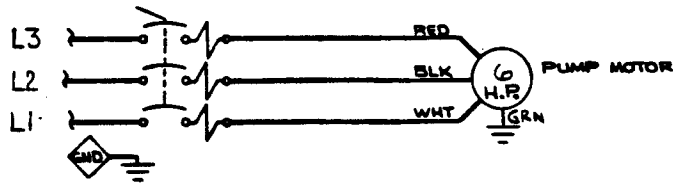
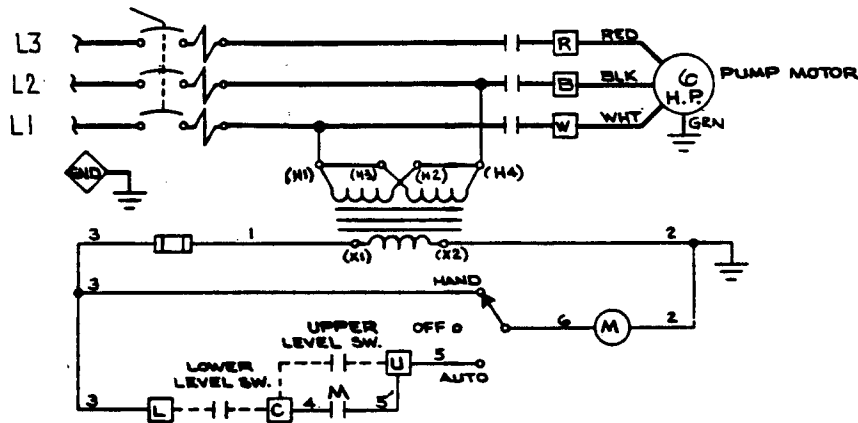
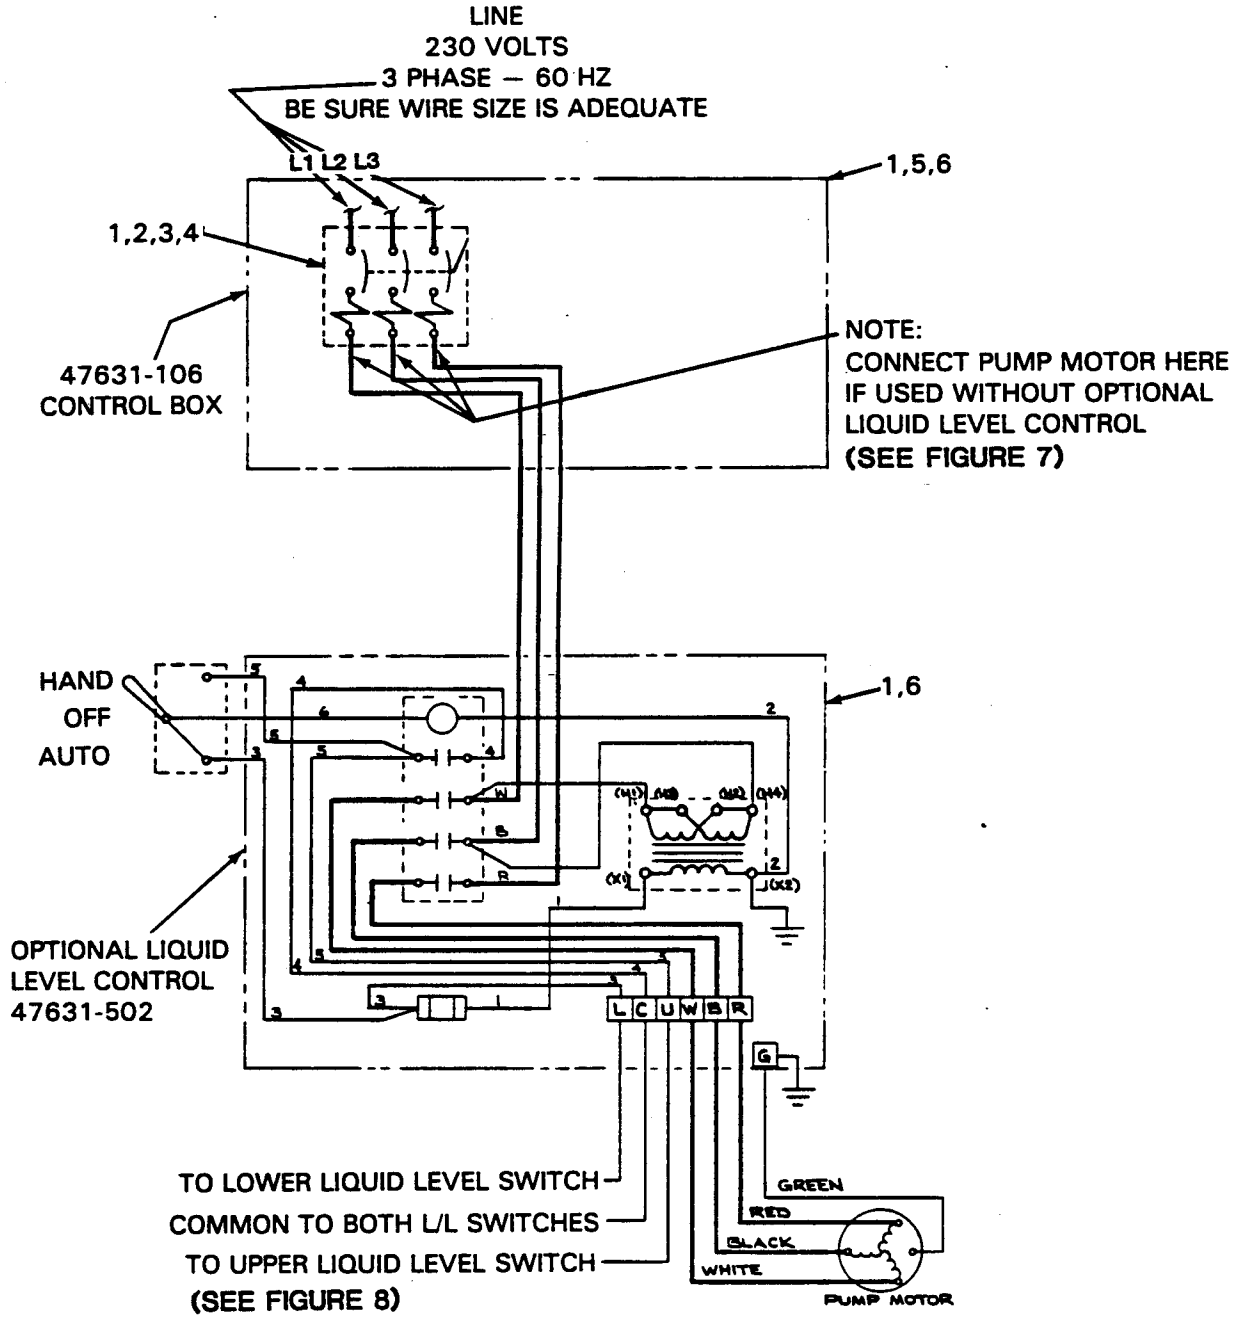

Figure 7. Elementary Wiring Diagram (Without Liquid Level Controls)
Figure 8. Elementary Wiring Diagram (With Liquid Level Controls)
Figure 9. 47631-106 Control Box Assembly - Pictorial Wiring Diagram
See Figure 9 on page B-16 for internal parts.
- a. Measure the incoming voltage across lines (1 & 2, 2 & 3, and 1 & 3.) while the pump is **operating at full capacity**. See Figure 7 on page B-15 or Figure 9 on page B-16.
Connect the pump power cable to the control box as shown in Figure 7 on page B-15 or Figure 9 on page B-16. Use conduit or cable clamps to secure the power and accessory cables to the control box. Make certain that all connections are tight and that cable entry points are rainproof.
If liquid level controls are to be installed, connect the motor power cables and level control power cables as shown in Figure 8 and Figure 9 on page B-16.
See Figure 9 on page B-16 for a pictorial wiring diagram and callouts of the control box assembly internal parts.